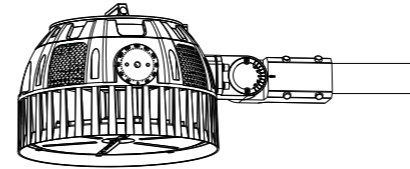

Figure 15
2. Loosen the fixing bolts and adjusting bolts, align the fixture to required angle. Tighten adjusting bolt and fixing bolts after the angle is confirmed. (Figure 15)